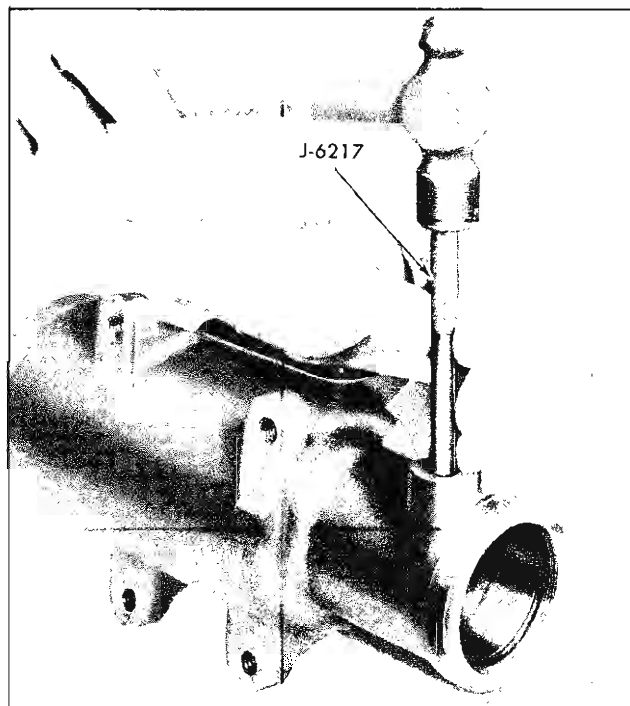

Fig. 9A-25 Installing Connector Using J-6217
4. Attach an inch-pound torque wrench with  $\frac{3}{4}$  inch 12-point socket to stub shaft (Fig. 9A-28).